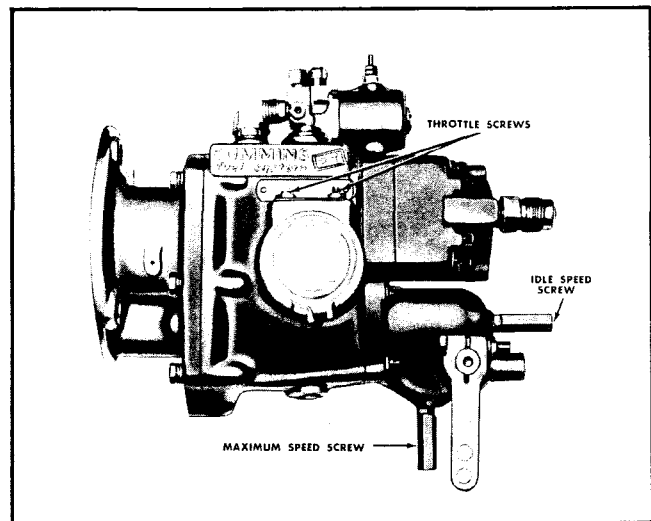

Fig. 4-31. Adjusting screws, variable-speed governor
2. Screw adjusting screw in or out to get speeds required. Fig. 4-31.